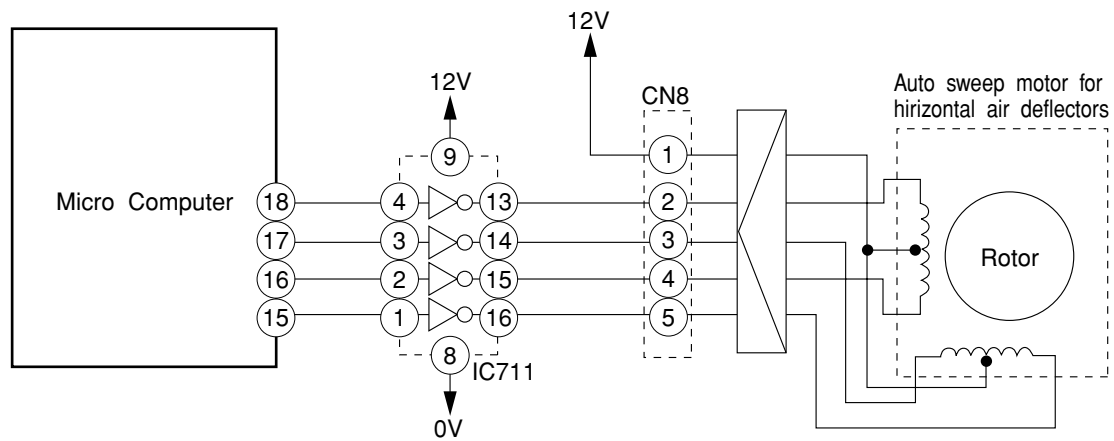

Fig.4-1 Auto Sweep Motor Circuit (Horizontal air deflectors)
- Fig.4-1 shows the Auto sweep Motor drive circuit; the signals shown in Fig.4-2 are output from pins ⑮-⑱ of the micro computer.